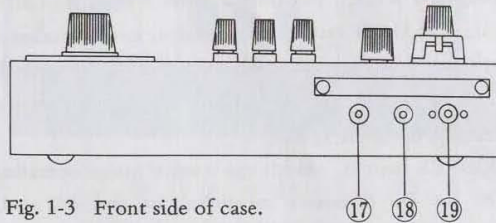

Fig. 1-3 Front side of case.
- ⑮ Cover fastener for the battery compartment.
- ⑯ Carrying handle.
C. Front Side of Case, Fig. 1-3